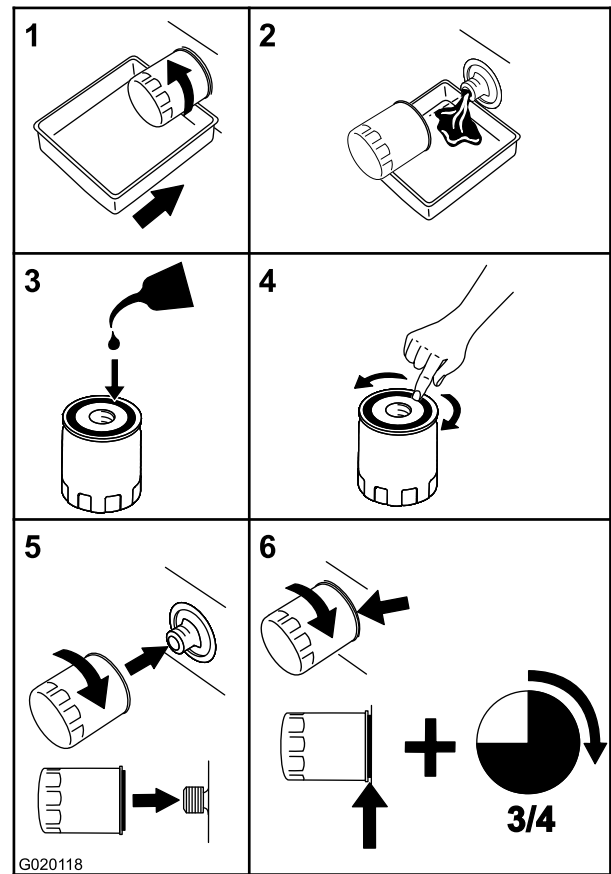

Figure 33
- Change the engine oil filter (Figure 33).